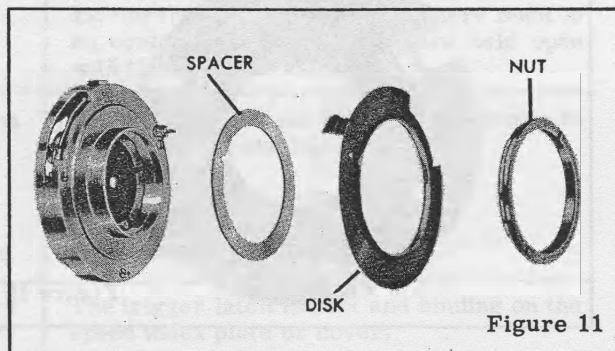

Figure 11
11. Shutter operating disk bearing NUT, figure 11.